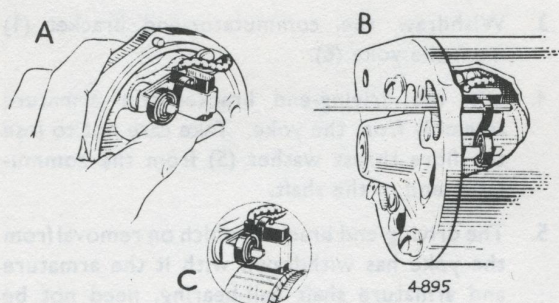

Fig. 4. Assembling end bracket and brushes to generator
1. Lift the brushes up into the brush boxes and secure them in that position by positioning the brush springs at the sides of the brushes (see Fig. 4)(A).
3. Push the brushes up into the brush boxes and secure them in that position by positioning each brush spring at the side of its brush (See Fig. 4, (A)).
5. Insert a thin screwdriver through the ventilator holes adjacent to the brush boxes and gently lever up the spring arms until the brushes correctly locate with the commutator (See Fig. 4, (A) and (B)).